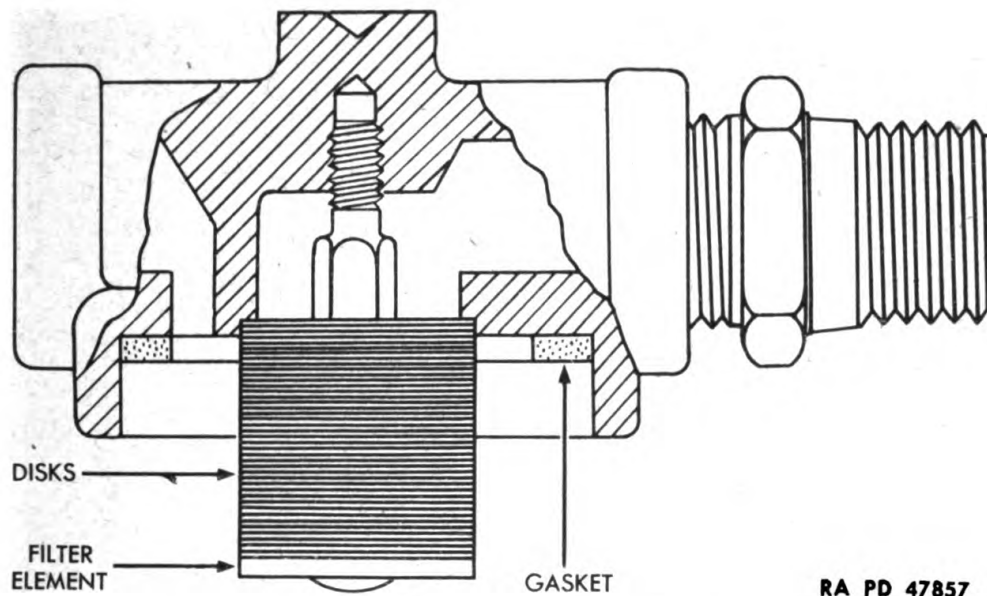

Figure 21 — Filter Element — Sectionalized View
a. General. The gasoline strainer assembly is attached directly to the carburetor. The fuel entering the strainer is forced through the filter element (fig. 21) where it deposits all of the dirt before entering the carburetor. Water and other foreign elements collect at the bottom of the filter bowl.